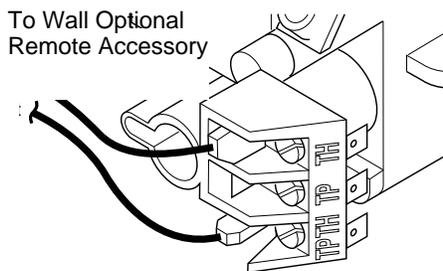

Figure 41 - Control Valve Terminals
3. Connect one terminal of the provided wire for the wall thermostat to the TPTH terminal on the valve. Connect remaining wire terminal to the TH terminal on the valve. Make sure that the wire terminals are in the positions on the unit as pictured in Figure 41. If wires are not connected as shown the thermostat will not work.
1. Connect one terminal of the provided wire for the wall switch to the TPTH terminal on the valve. Connect remaining wire terminal to the TH terminal on the valve. Make sure that the wire terminals are in the positions on the unit as pictured in Figure 41. If wires are not connected as shown the switch will not work.
6. Connect wires from receiver to TH and TPTH on the valve (see Figure 41, page 21).